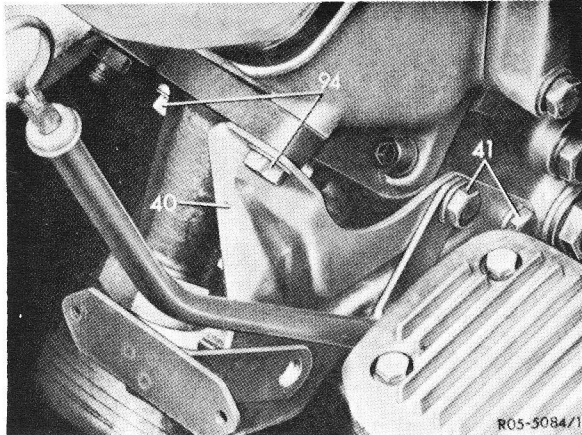

Fig. 3
- 6 Unscrew both bolts (94) on chain tensioner and lower bolts (41) on face of holder (40) for engine damper (Fig. 3).